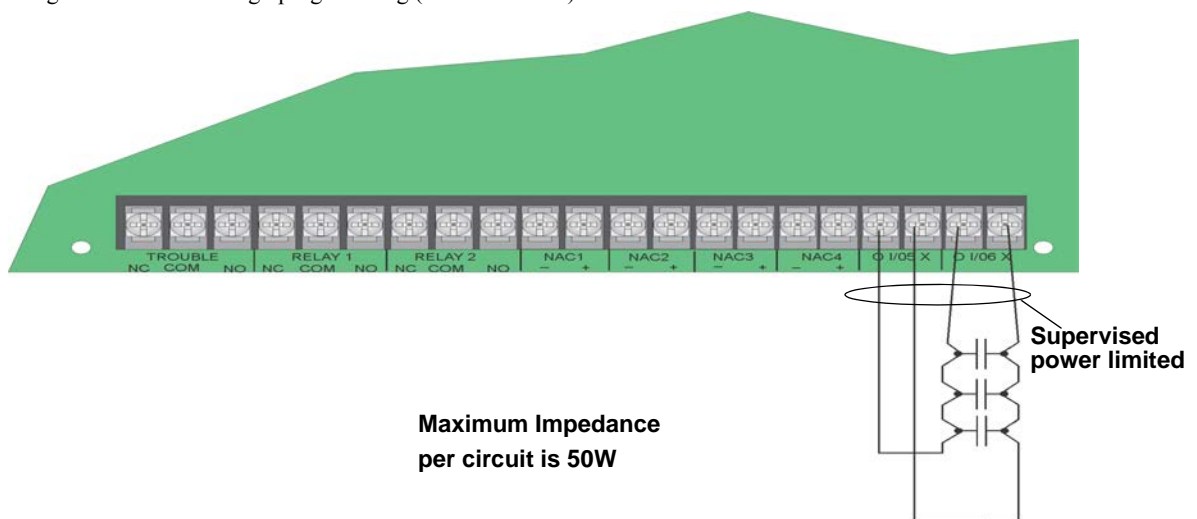

Figure 4.46 Class A Initiating Switches
- Wire the Class A switch as shown in Figure 4.46.
NOTE: In programming any point that uses multiple Flexput circuits, the lowest Flexput circuit number is used to refer to the circuit pair. In this example, Figure 4.46 uses both Flexput circuit 5 and 6, so in programming it would be referred to as point 5.